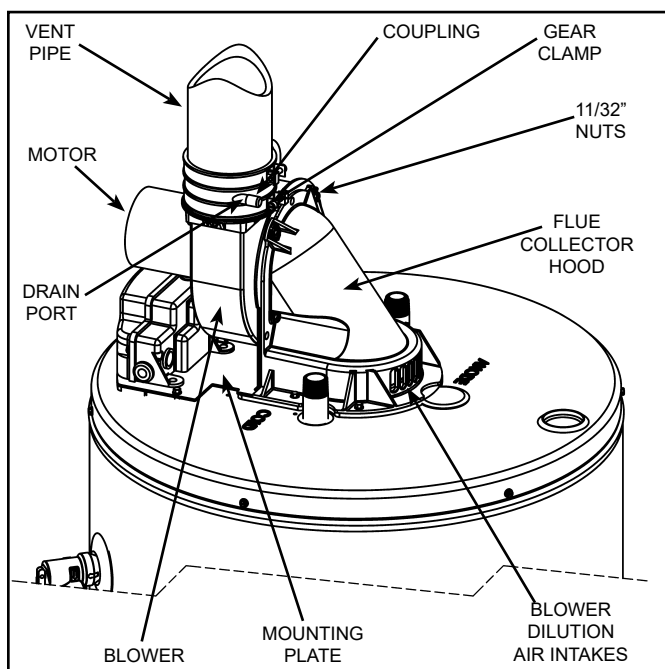

Figure 48.
Inspect the top of the heater and around the ventilation openings of the blower motor and the rear blower dilution air intakes for any lint and dust that may have accumulated. Depending on the location of the heater, significant quantities of lint may accumulate. The lint may obstruct the free flow of air to the motor, and cause the motor and blower to run hotter than normal (see Figure 48).
4. Disconnect the vent piping from the top of the blower. Loosen the lower gear clamp that holds the rubber coupling to the blower (see Figure 48).
5. Remove and retain the (4) 11/32" nuts located on the back of the blower with the nutdriver (see Figure 40 & Figure 48).
10. With all parts cleaned and the blower wheel turning freely, reinstall the blower to the mounting plate aligning the (4) studs and pushing tight against the mounting plate.
11. Reinstall the (4) 11/32" nuts and tighten securely. All (4) nuts must be in place and secure to safely operate the blower.